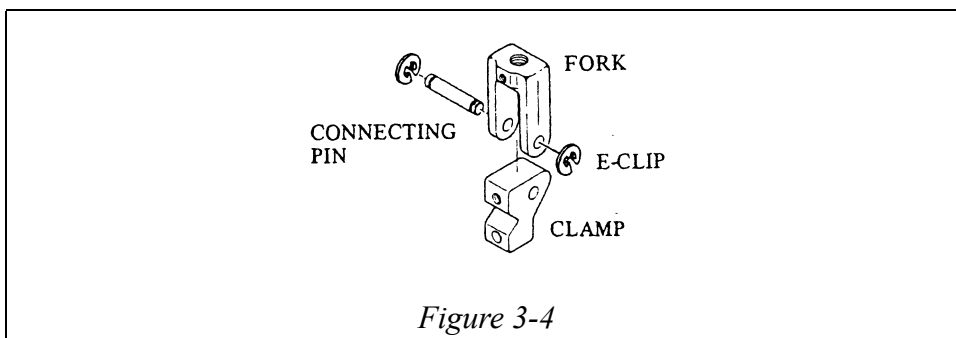

Figure 3-4
- (1) Remove the clamping bolts (except the pair of eyebolts) from the diaphragm case (top). Alternately and evenly loosen the pair of eyebolts last.
- (2) Loosen the anti-rotation lock nut and remove the fork from the end of the actuator.
- (3) Pull the folded diaphragm out upwards, exercising care not to damage it.
- (4) Next, while holding the outer section of the diaphragm plate, remove the diaphragm clamping-nuts from the top of the diaphragm section.
- (5) To disassemble the fork and clamp, remove the E-clip and then pull out the connecting pin (Figure 3-4)